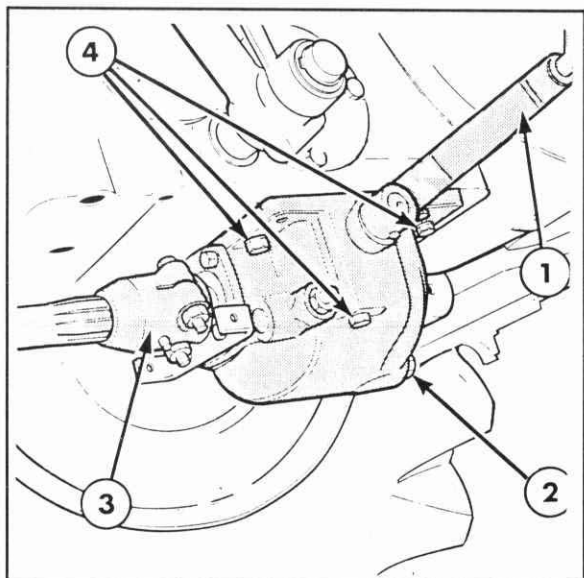

Figure 7-140
3. Remove the transfer case/rear axle drain plug, Figure 7-140, and allow the oil to drain into a suitable container. Replace the drain plug.
5. Disconnect the drive shaft coupling from the transfer case output shaft. Refer to Figure 7-140.